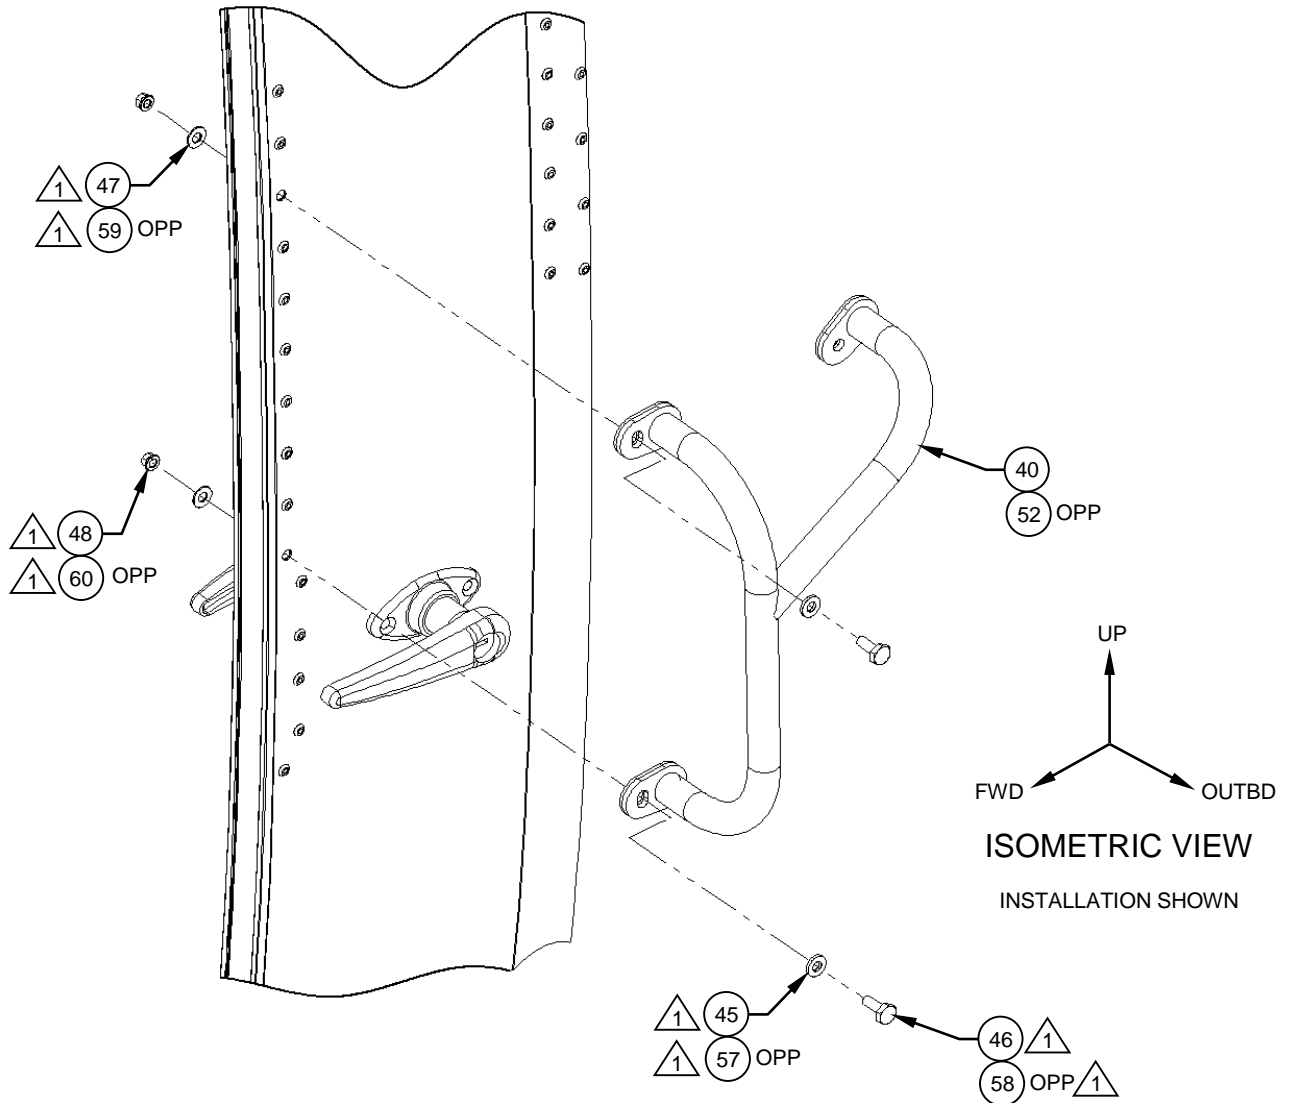

Figure 16
3. Temporarily install the Handle, Assy (Item 40, 52 OPP) using the supplied hardware in the holes that were drilled out. Use this to scribe a center mark for the third foot. Reference Figure 16.